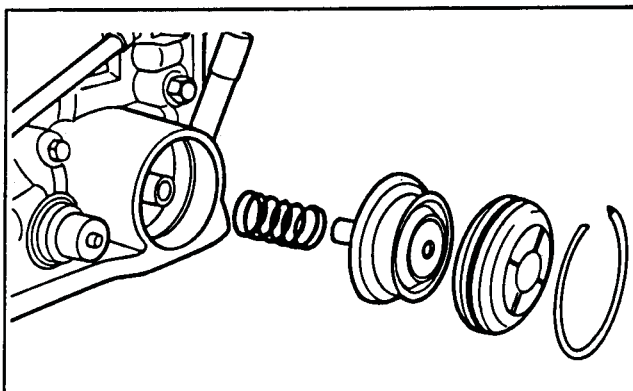
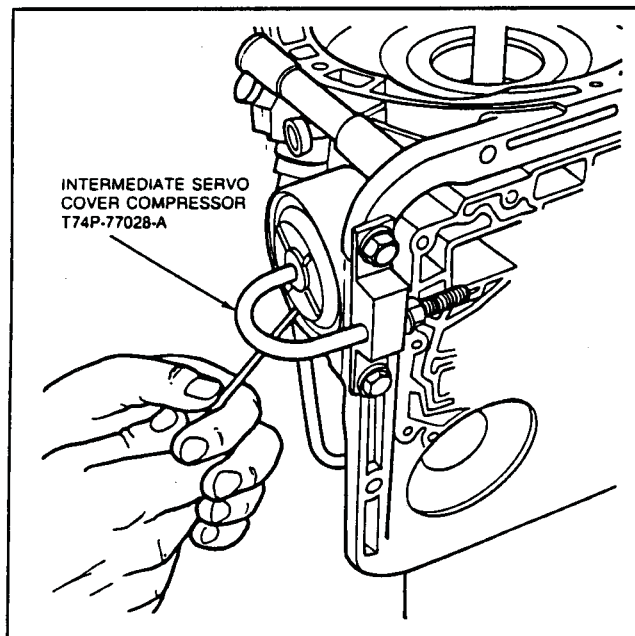

FIG. 45 Reassembly of Intermediate Servo
FIG. 46 Holding Intermediate Servo Cover to Install Snap Ring
8. Install the spiral spring on the intermediate servo piston assembly (Fig. 45). Position the piston and cover and secure with the snap ring using Front Servo Cover Compressor T74P-77028-A or equivalent (Fig. 46). Replace the servo piston or O-rings at this time, if necessary.